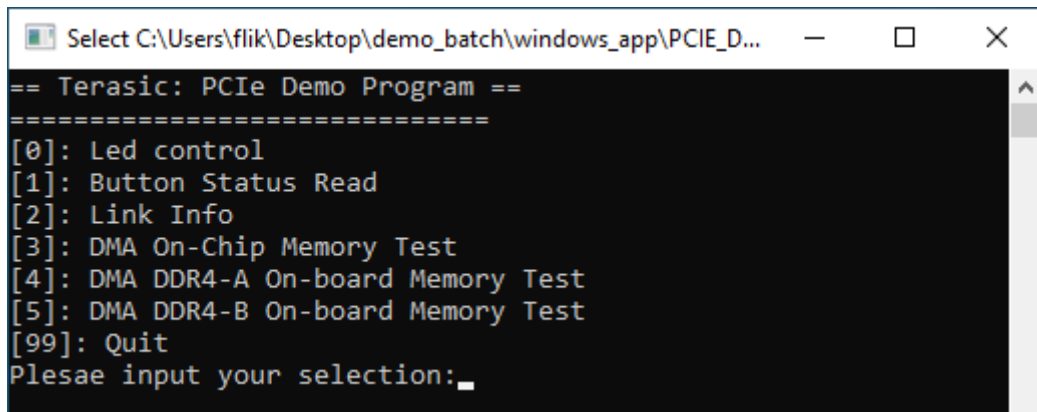

Figure 5-10 Screenshot of Program Menu
7. Go to windows_app folder, execute PCIE_DDR4.exe. A menu will appear as shown in **Figure 5-10**.